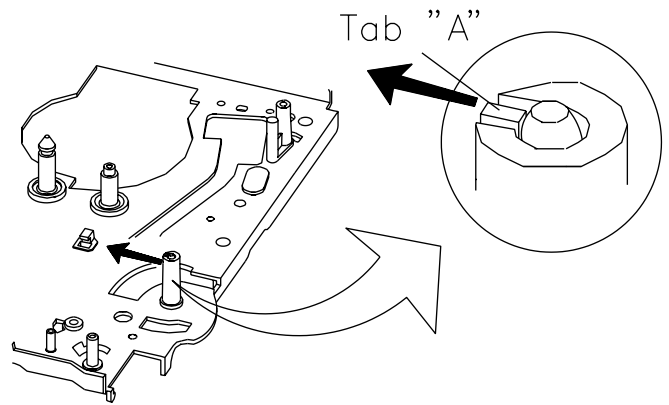

Fig.3-16 TENSION BAND ASS'Y REMOVAL (¥-)
- Turn the DECK MECHANISM over. (Fig.3-16)
- After separating the tab of hook 'A', remove the TENSION BAND ASSEMBLY (Fig.3-16)